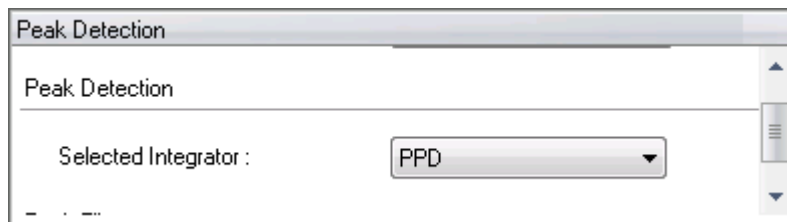

Figure 6-35. Peak Detection Integrator PPD
5. For **Peak Detection**, select **PPD** from the drop-down list **Selected Integrator**, see Figure 6-35.